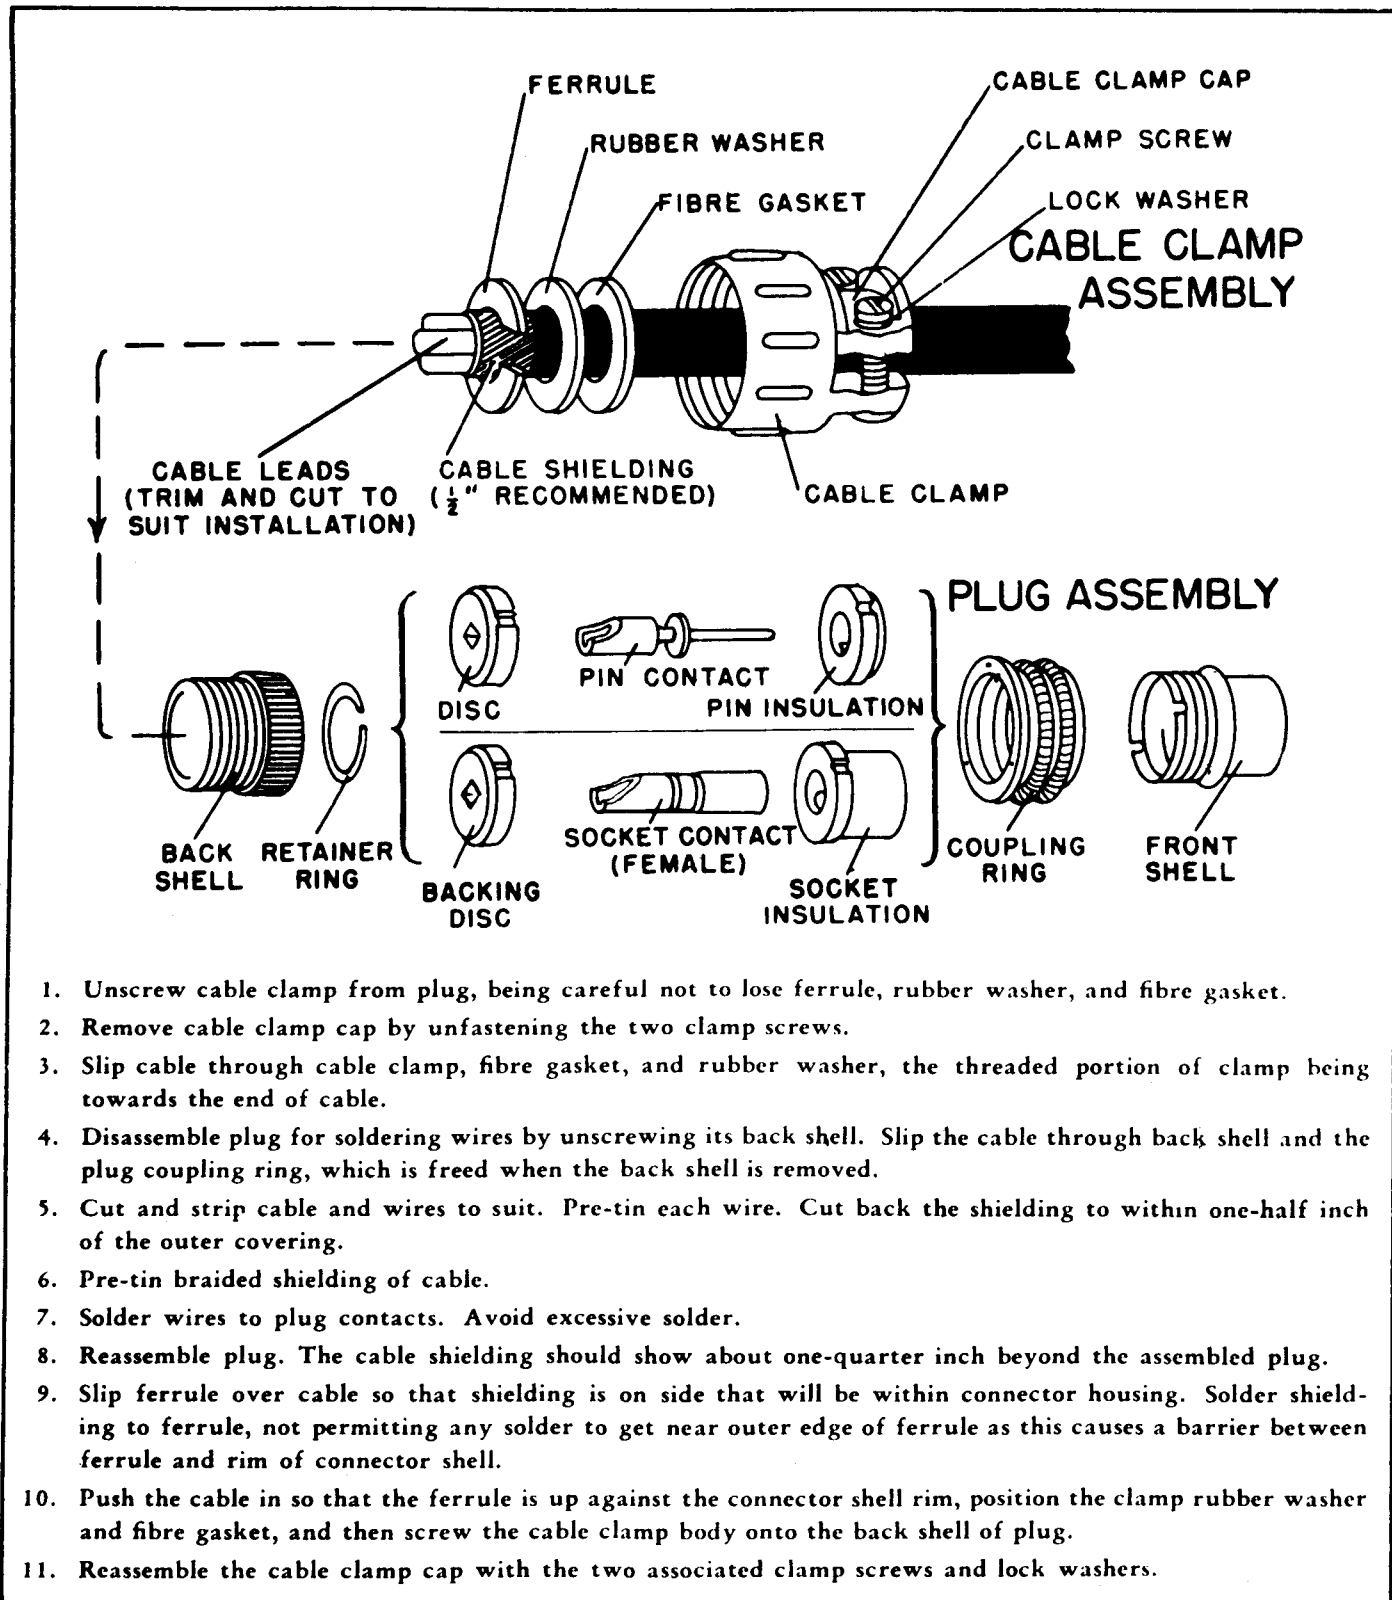

Figure 3-6. Cable Fabrication, AN-3106A Plugs
(4) **POWER (AN-3106A-16S-5S PLUG).**—Select a cable having an outside diameter of 1/2 inch such as MCOS-2 or equivalent, and fabricate the cable to plug as shown in figure 3-6. If armored cable is used, make certain that cable clamp grips the armor securely. See Table 3-1 for plug contacts used.
(5) **AUDIO (AN-3106A-10SL-4S PLUG).**—Select a cable having an outside diameter of 3/8 inch such as TTHFWA-1-1/2 or equivalent and fabricate cable to plug according to the instructions given in figure 3-6. If armored cable is used, make certain that the cable clamp grips the armor securely. See Table 3-1 for plug contacts used.
(6) **DET. AGC (AN-3106A-10SL-5S PLUG).**—Select a shielded cable having an outside diameter of 3/8 inch such as TTRSA or equivalent and fabricate cable to plug according to the instructions given in figure 3-6. If armored cable is used, make certain that the cable clamp grips the armor securely. See Table 3-1 for plug contacts used. Use cable shield as ground connection.
The three links on terminal board E1001 in the second i-f assembly of both local and companion receivers are to be changed as shown in figure 3-11 to achieve the combinations possible when operating two AN/SRR-12 or -13 receivers in a dual diversity system. Link positions for single receiver connections on E1001 are shown in figure 3-12. See figure 3-6 for link board locations.